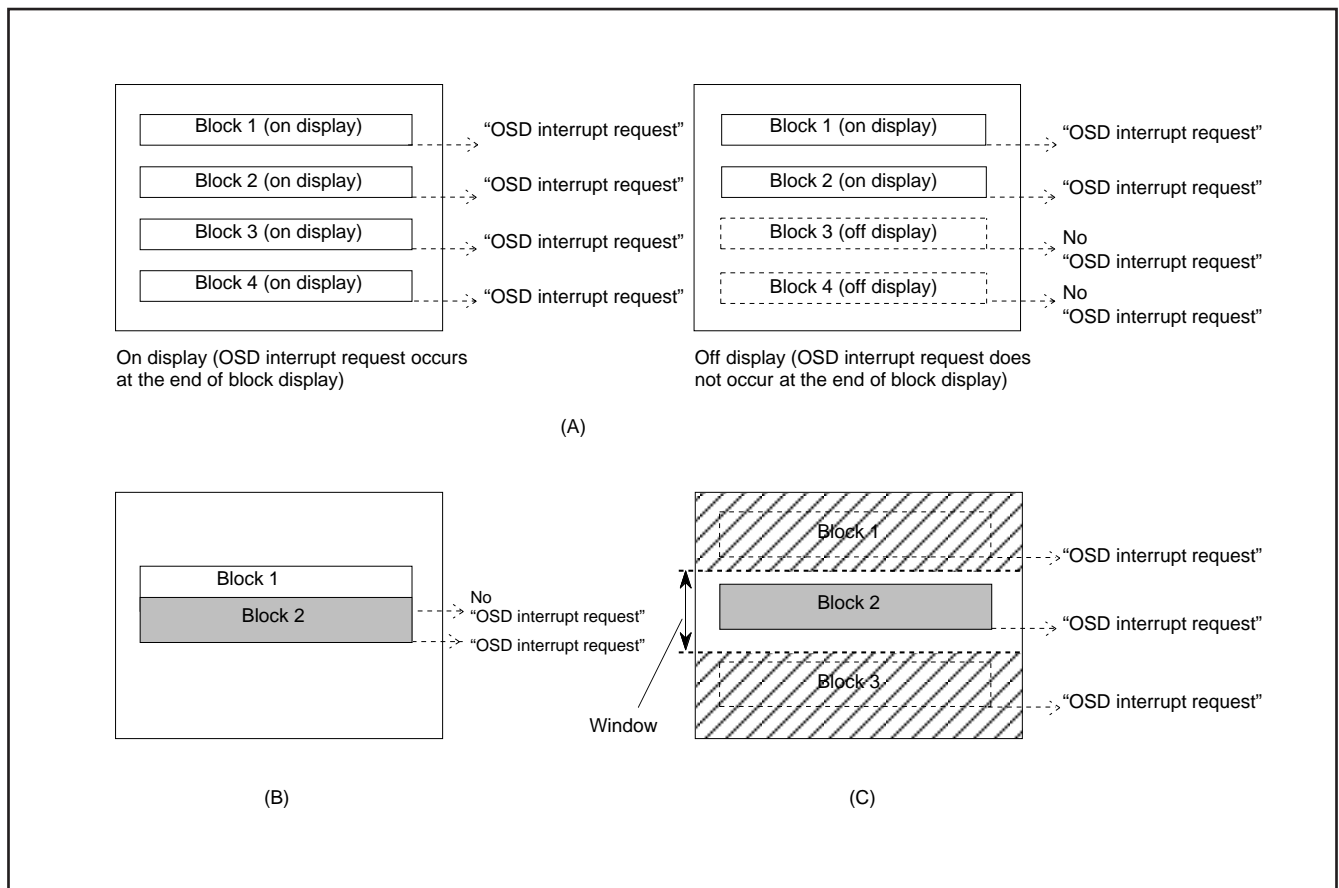

Fig. 12.11.36 Note on Occurrence of OSD Interrupt
Notes 1: An OSD interrupt does not occur at the end of display when the block is not displayed. In other words, if a block is set to off display by the display control bit of the block control register i (addresses 00D016 to 00DF16), an OSD interrupt request does not occur (refer to Figure 12.11.36 (A)).
2: When another block display appears while one block is displayed, an OSD interrupt request occurs only once at the end of the another block display (refer to Figure 12.11.36 (B)).
3: On the screen setting window, an OSD interrupt occurs even at the end of the CC mode block (off display) out of window (refer to Figure 12.11.36 (C)).